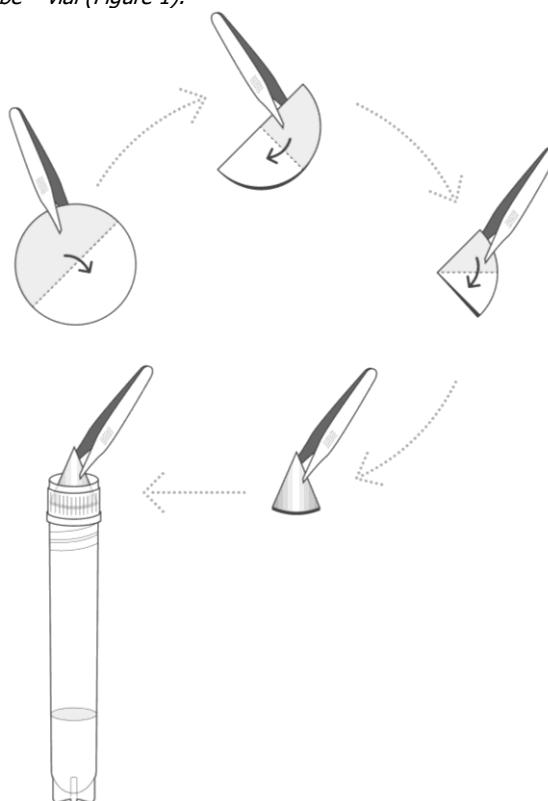

Figure 1
1. Using the sterile tweezers fold the filter two to three times in order to obtain a cone, as shown in Figure 1.
Note: the membrane filter must be inserted in the vial with the point of the cone oriented to the top of Cryotube™ vial (Figure 1).